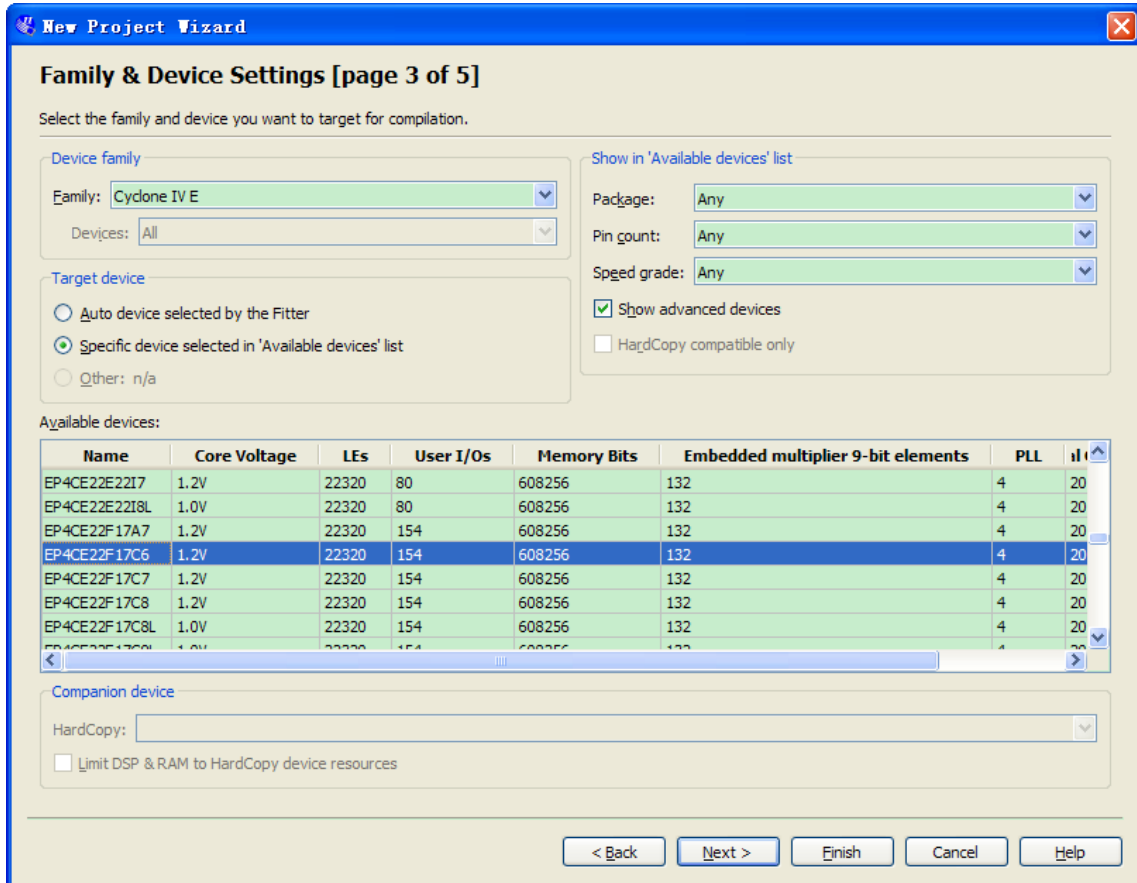

Figure 6-10 Specify the Device Example
- g. You will assign a specific FPGA device to the design and make pin assignments. See **Figure 6-10**.